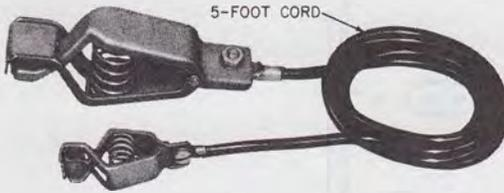

Fig. 3—B Temporary Bond
**3.03 C Canvas Bag:** An AT-8338 canvas bag is available to carry and store the 188A test set and B temporary bond (Fig. 3).
**3.06 B Temporary Bond:** The B temporary bond (Fig. 3) is used to temporarily ground a light fixture, metallic conduit, power company hardware power ground wire, or other metallic objects in the telephone company work space which could become energized if a fault developed. The B temporary bond is placed on such attachments only after the metallic object has first been tested with the 188A test set and found to be free of a voltage potential. When placed, the bond is first attached (small clamp) to a reliable ground source and then to the metallic object. When the work is completed, the bond is removed from the metallic object and then the ground source. Should a fault develop when the B temporary bond is in place, the insulation may overheat and smoke which should alert the employee to descend the pole immediately and avoid contact with the bond.